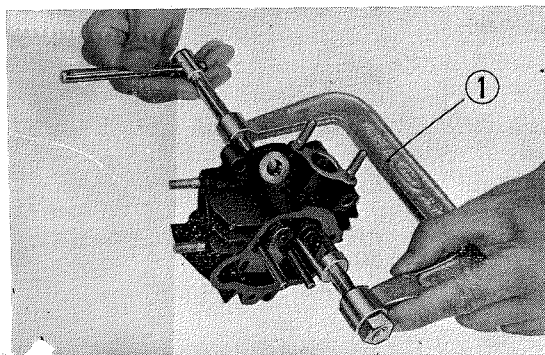

Fig. 24 Valve spring removal
5. Remove the valve cotters, valve seat and valve spring using the valve spring compressor. (Fig. 24)